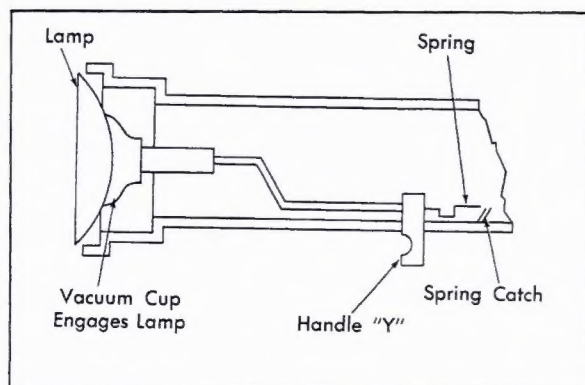

Fig. 12-7 Securing Aimers on Sealed Beams
4. Secure aimer to each headlight by pressing handle "Y" forward until vacuum cup engages headlight lens, then draw handle back until spring catches, Fig. 12-7.
4. Hold aimer and release spring catch, Fig. 12-7. Push handle toward headlight to release aimer.